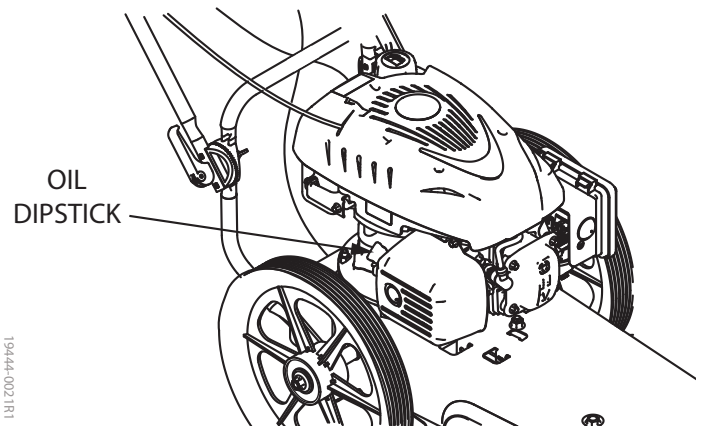

FIGURE 7: Oil Dipstick Location.
2. Remove dipstick and carefully tip the engine toward the dipstick side to empty oil from oil fill area. Empty oil into a suitable oil container and dispose of oil properly. **SEE FIGURE 7**